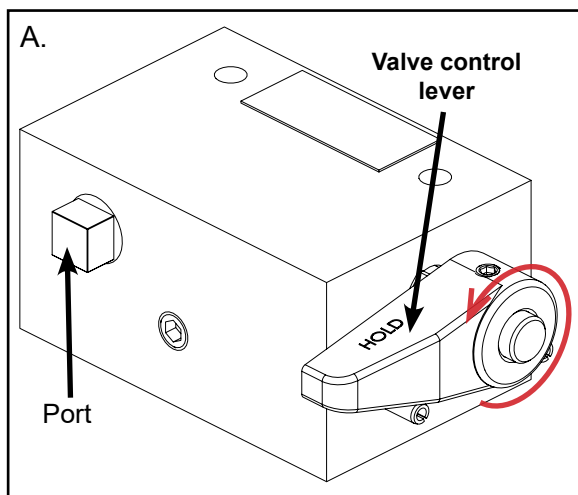

Figure 2
2. 2-Position, 2-Way Manual Valve Used With Single-acting Cylinder (Figures 2 & 3)
- To HOLD pressure, turn the valve control handle counterclockwise (CCW), (See Figure 2)